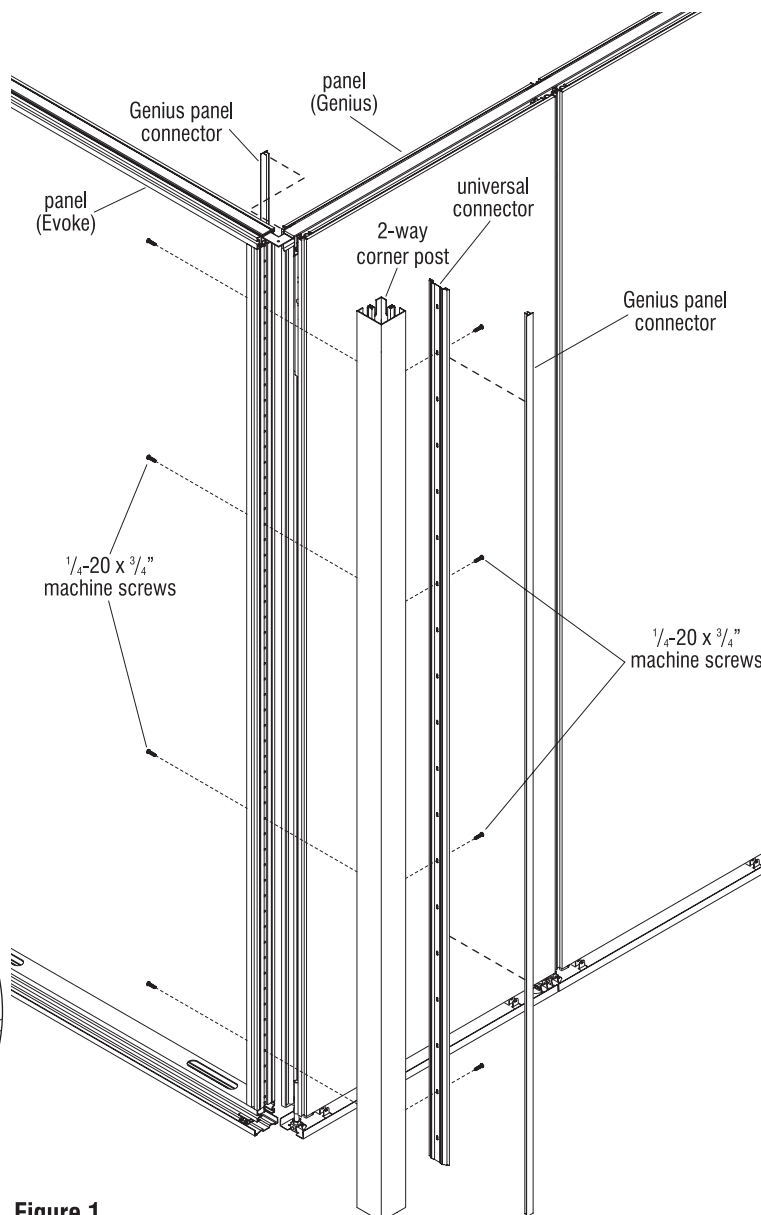

Figure 1
5. Position the universal connector against the Genius side of the cut-to-size 2-way corner post, flush to the top of the post. Secure the connector to the post using four 1/4-20 x 3/4" machine screws, evenly spaced (Figure 1).
6. Position the Evoke side of the 2-way corner post against the Evoke panel edge with the corner post resting on the floor, and secure using four 1/4-20 x 3/4" machine screws, evenly spaced (Figure 1).
8. Insert into the gap, two Genius panel connectors (one at each side) beginning even with the top of the panel. Using a thumb, work in each connector firmly around the panel or post flanges, from the top to the bottom (Figure 1).